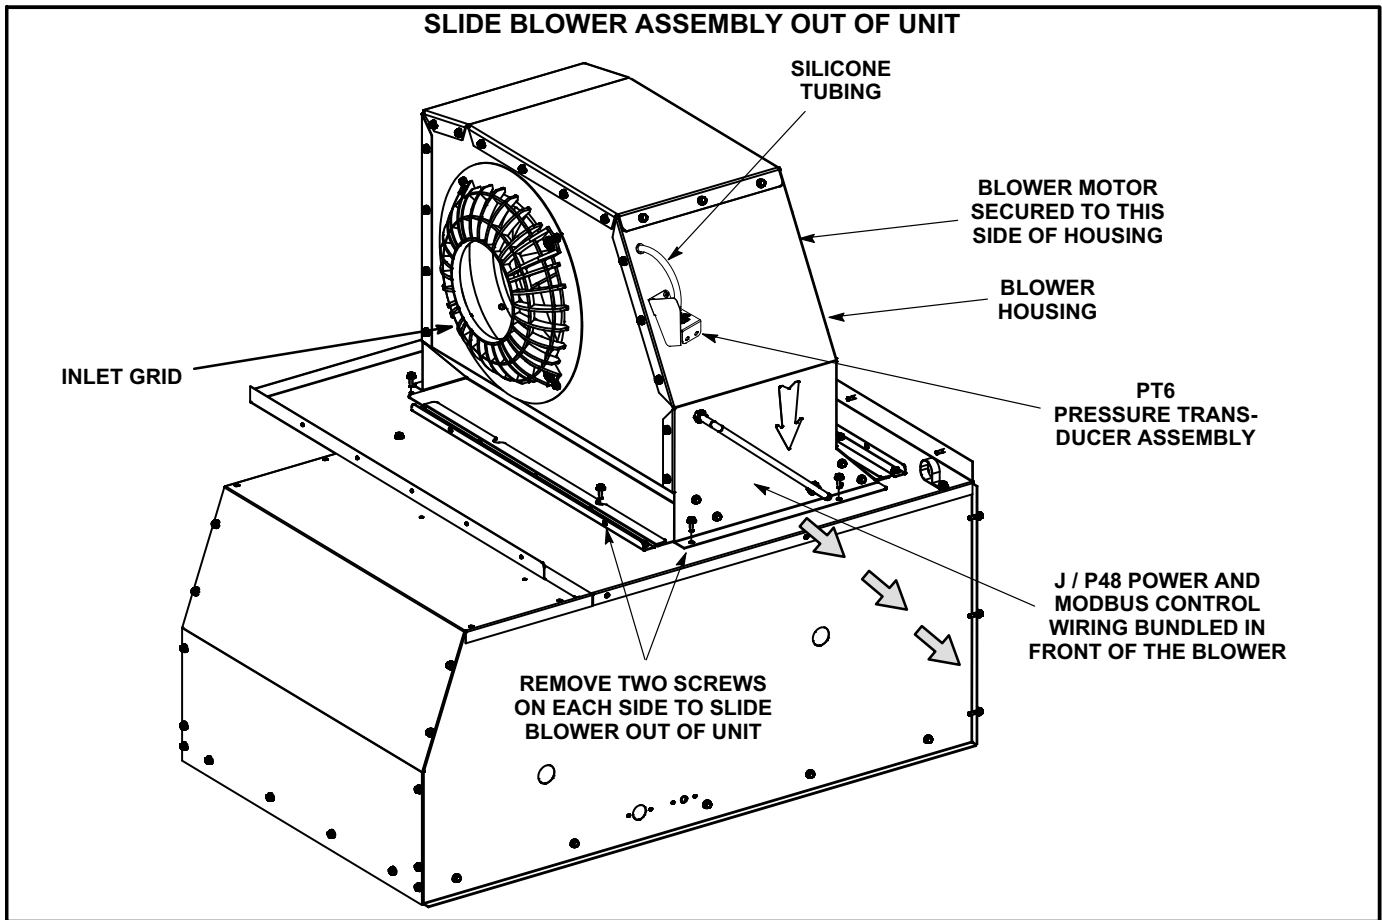
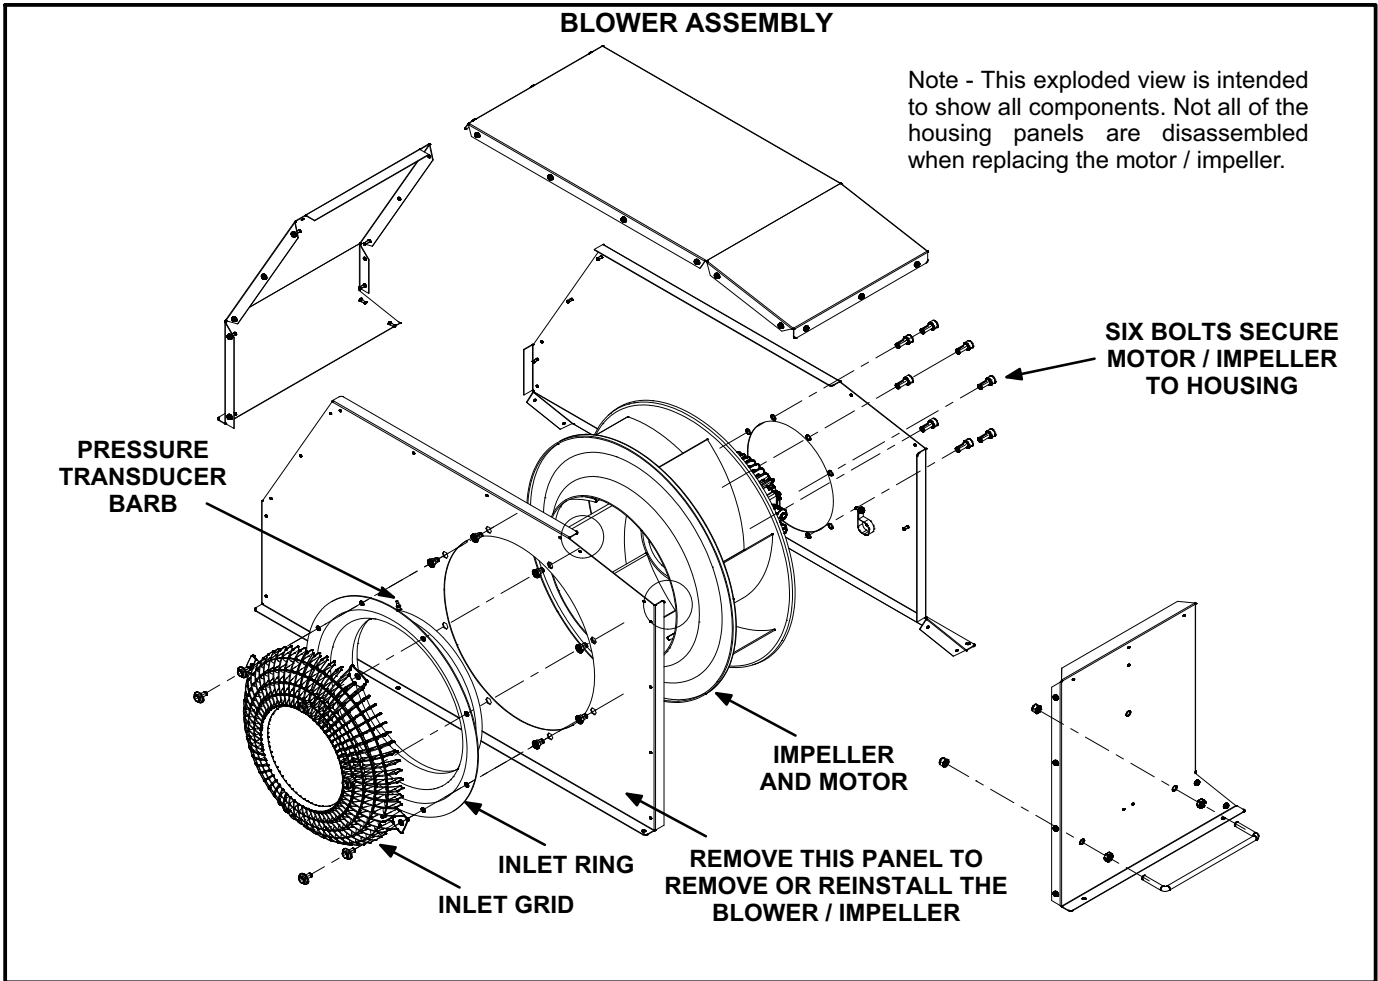

FIGURE 2
FIGURE 3
- 5- Remove four screws securing blower assembly to unit. See figure 2.
- 7- Remove PT6 pressure transducer bracket and silicone tubing from housing. See figure 2. If needed, remove the inlet ring to disconnect the tubing from the inlet ring barb. See figure 3. Disconnect the pressure transducer wire connector.
- 10- Remove the inlet grill, orifice and the side of the housing shown in figure 3.
- 11- Remove the motor / impeller secured to the existing housing. See figures 3 and 4.
- 1- Remove one side of the replacement housing. See figures 3 and 4.
- 6- Install blower assembly flanges into rails on the blower deck in the same manner the discarded housing was removed. Secure into place using four screws shown in figure 2.